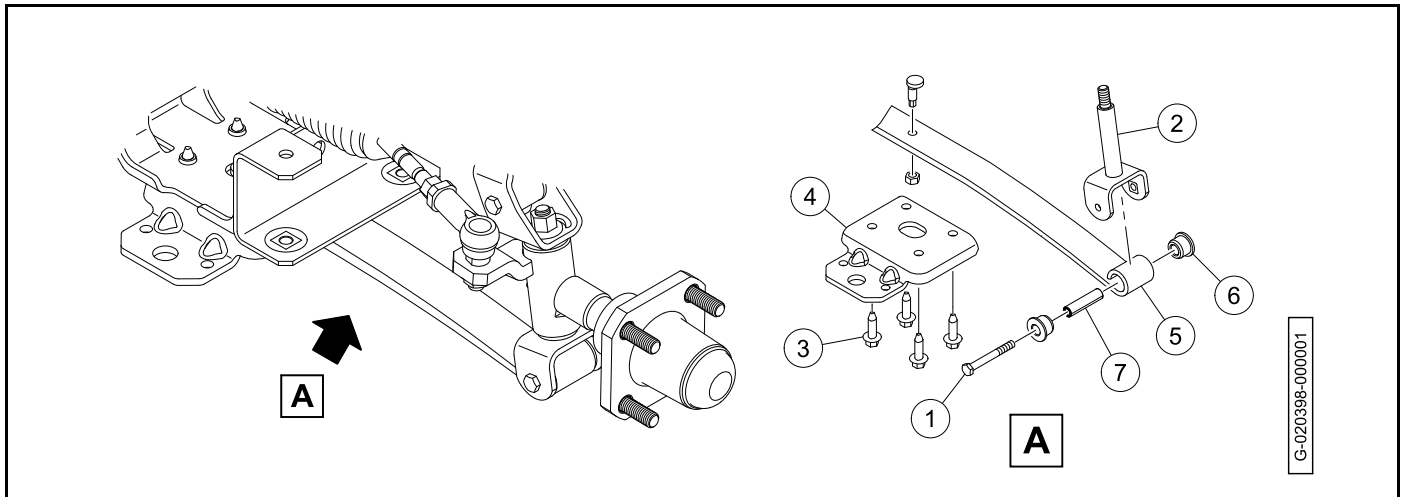

Figure 7-24
- Remove the bolts (1) from the bottom of each kingpin (2) (Figure 7-24).